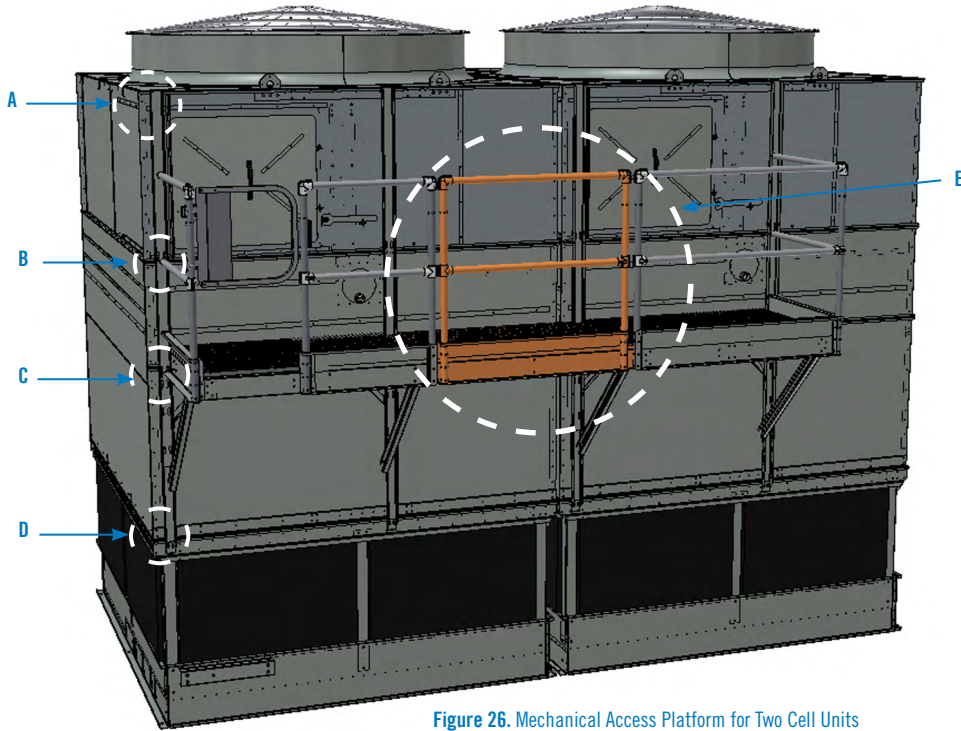

Figure 26. Mechanical Access Platform for Two Cell Units
4. If applicable, lift the bridge section(s) between the mounted hang-on modules and lower into position so that it rests on support channels. Fasten the bridge section(s) to the support channels at 4 places using 3/8" x 1 1/4" hardware supplied. See **Detail E (Figures 26, 27, 29, 30, 31, 32, and 33)**.